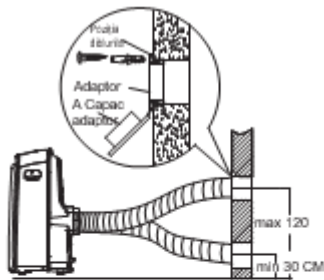

Fig. 18
1. Prepare a hole in the wall. Install the wall Exhaust adaptor A onto the wall (outside) by using 4 expansions plugs and wooden screws, be sure to fix thoroughly (see fig. 18)